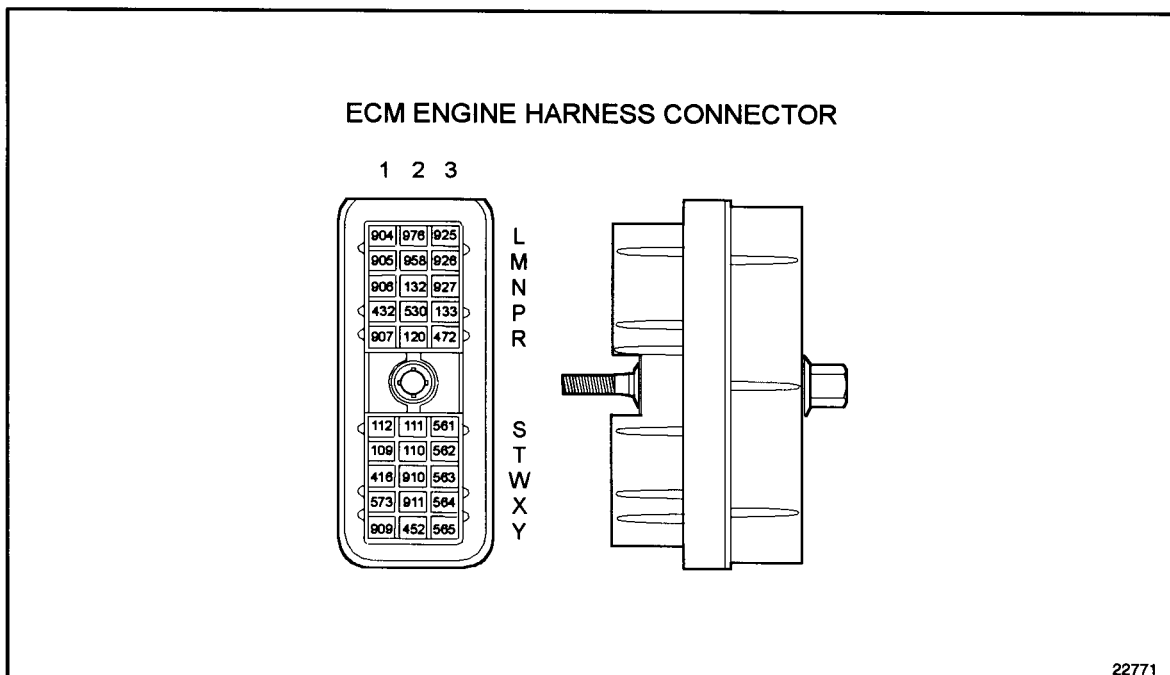

Figure 14-12 ECM Engine Harness Connector
3. Measure resistance between sockets P3 (#133) and Y2 (#452) on the Master engine harness connector. See Figure 14-12.